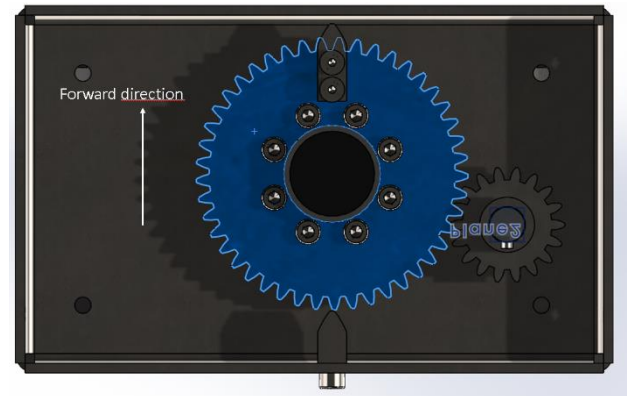

Figure 1 Mounting of driven gear
- Attach the large gear to the ring using 8x M8x30, verify the mechanical stop is directly opposite of the affixed stop of the box. As can be seen in figure 1.